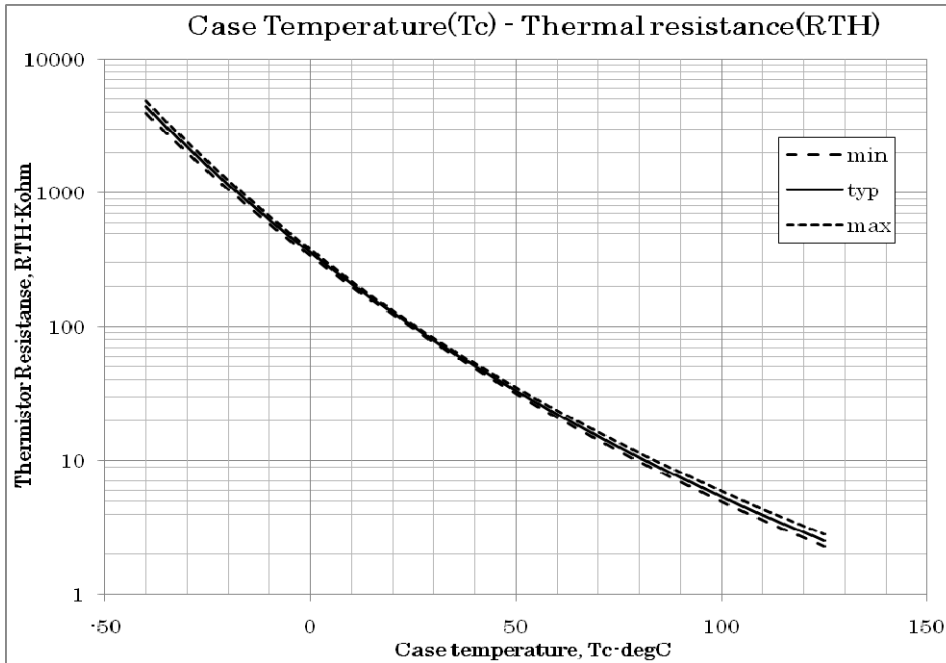
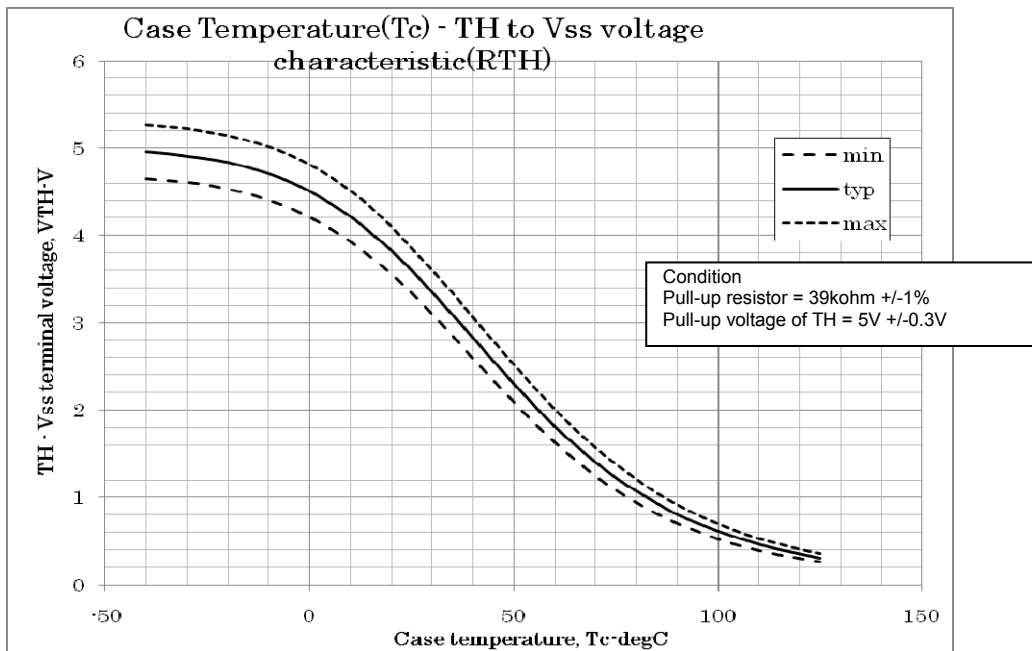

Fig.10 Variation of thermistor resistance with temperature
Fig.11 Variation of temperature sense voltage with thermistor temperature
4. Inside the IPM, a thermistor used as the temperature monitor for internal substrate is connected between “TH1” and “TH2” . Generally, one of terminals is connected to V_{SS}, and the other is pulled up to external power supply with pull-up resistor (Rp) externally. The temperature monitor example application is as follows please refer the Fig.10 and Fig.11 below.